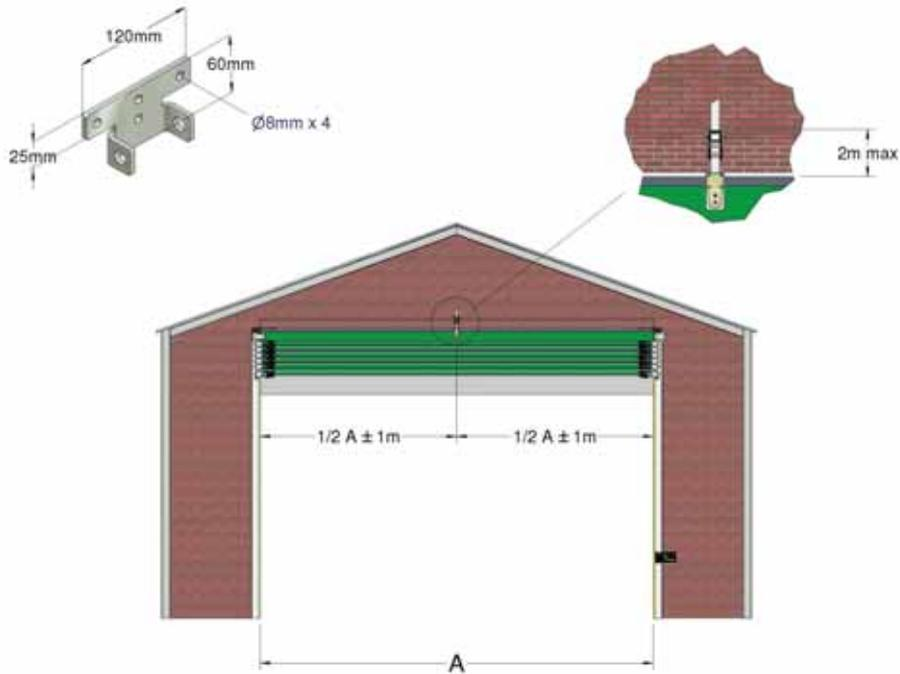

Figure 16a: Door 10m to 14.9m
5.1 Decide on the position of the top support, to minimise screen sag we recommend it is positioned as indicated in Figure 16a or 16b